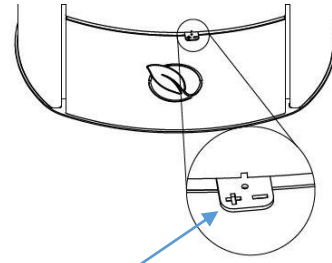

Figure 16
- When the stove heats up (usually within 5 to 10 minutes), close the primary air supply (figure 16) by adjusting the regulator to the optimal position. Ensure the stove parts are already heated and use protective gloves.
- The nominal heat output (8 kW) is achieved when the air regulator is set so that the small circular opening on the regulator aligns with the small channel on the door (figure 16).
- * The fire intensity is regulated by the secondary air intake: the position of the circular opening in the center of the regulator aligns with the door channel (Figure 16).